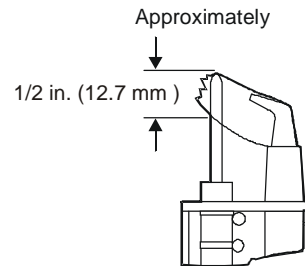

Figure 4: Flame Position
- A flame approximately 1/2 in. (12.7 mm) high must surround the thermocouple tip (Figure 4).